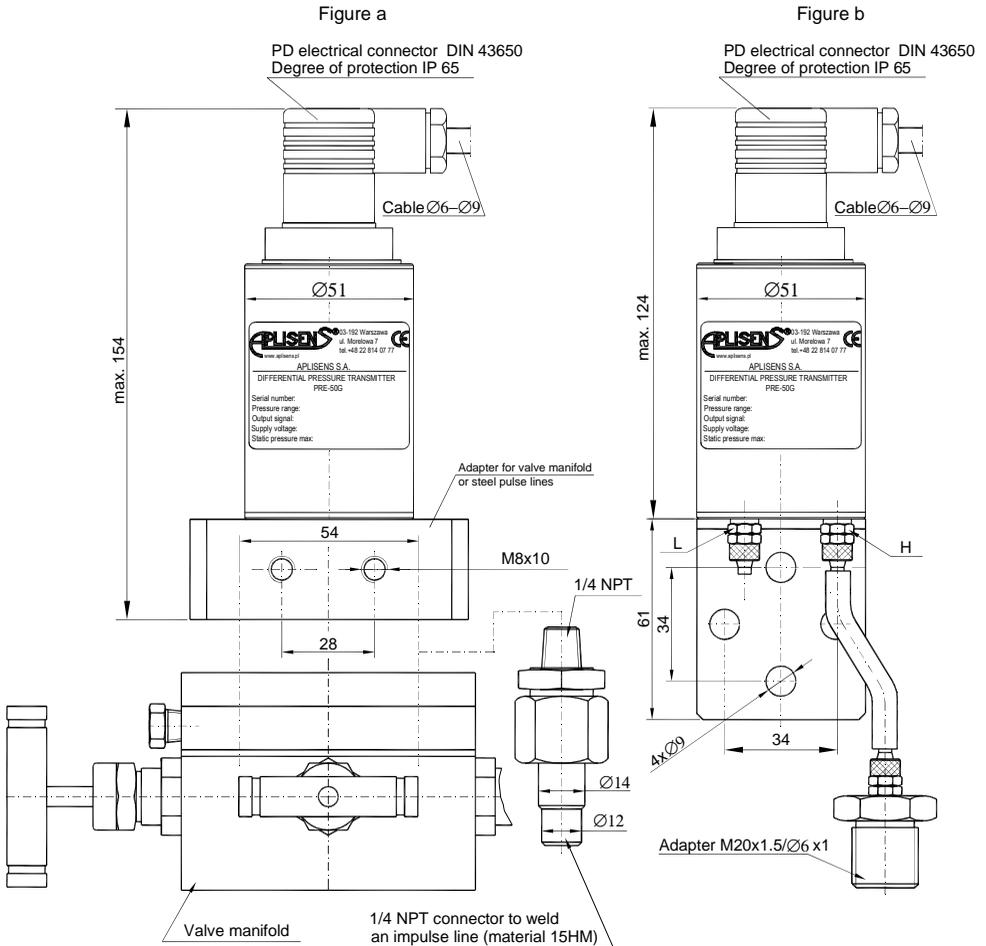

Fig.2. PRE-50G differential pressure transmitter for low ranges.
8.2. The PRE-50G transmitter can also be fitted with an adapter (Figure 2) creating a C-type connector, designed for installation on a 3-valve or 5-valve manifold. Aplisens can also supply transmitters ready mounted on valves.